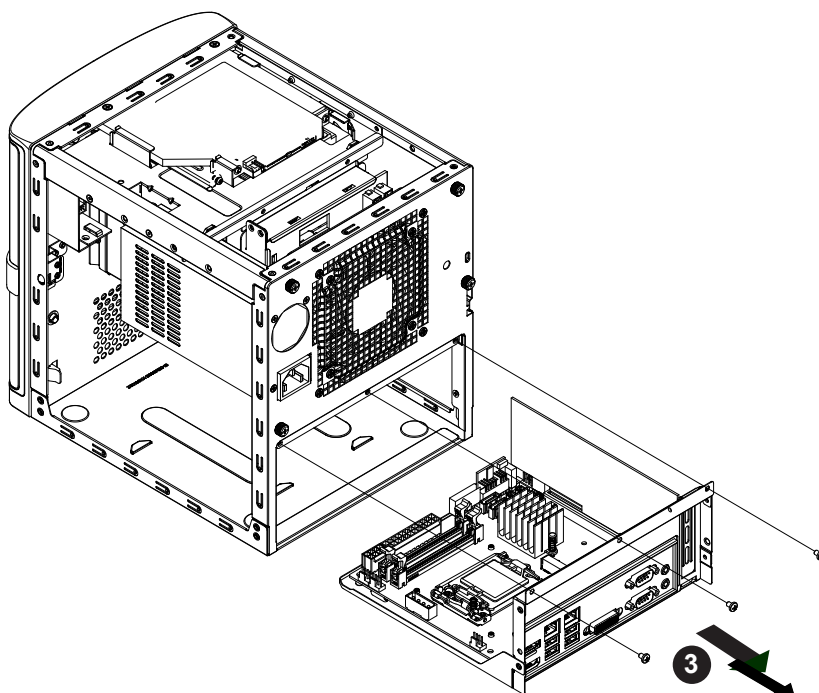

Figure 2-21. Removing the Rear Tray from the Chassis
3. Pull the rear tray out from the chassis. (Figure 2-21.)